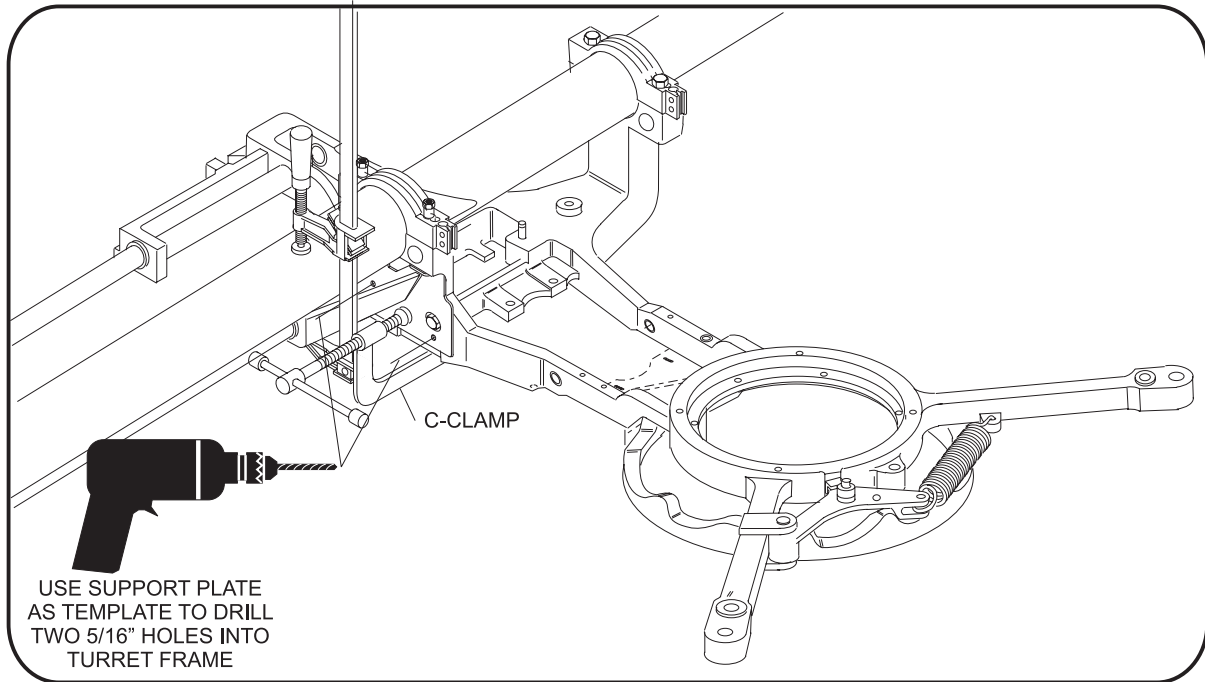

Figure 3
- Using c-clamp, secure the bottom of the support plate in position. Refer to *Figure 3*.
- Using the new support plate as a template, carefully drill two 5/16" holes into the turret frame. Be sure to keep the drill, level and straight. Refer to *Figure 3*.